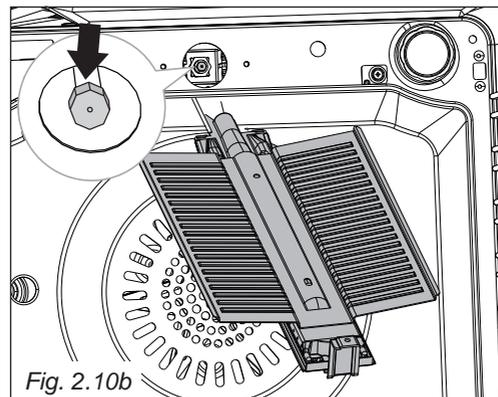

Fig. 2.10b
- Withdraw the burner as shown in figure 2.10b. Take care not to damage the safety valve probe and the electric ignition electrode.
- Using a 7 mm box spanner, unscrew the injector (indicated by the arrow in fig. 2.10b) and replace it with a new one selected in accordance with the "Table for the choice of the injectors".